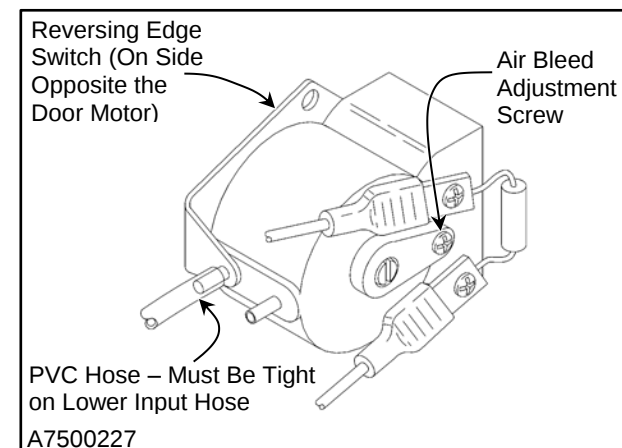

Figure 33
2. Make sure the clear PVC hose is in tight contact with the air input post so that air leakage cannot occur and that vibration will not cause the hose to fall off. Make sure the hose is not kinked. (See Figure 33)